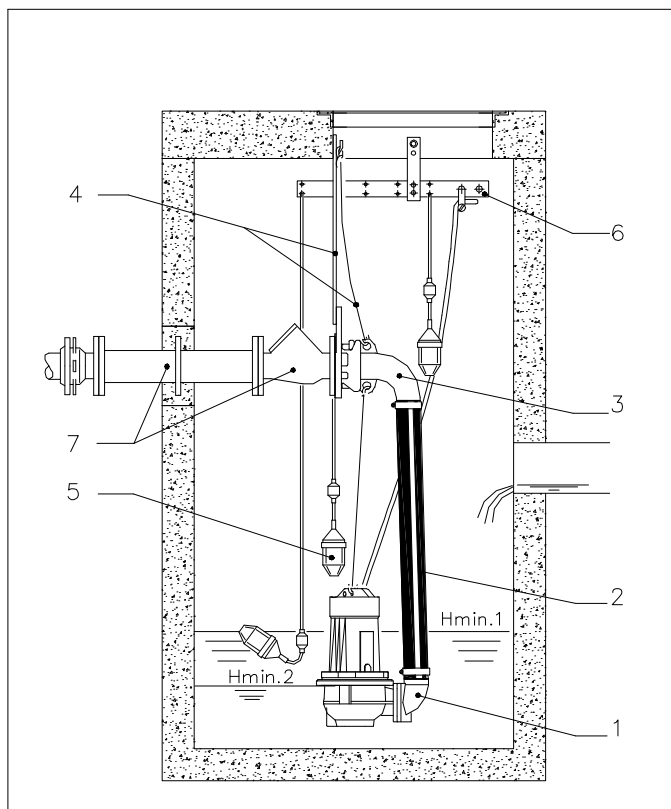
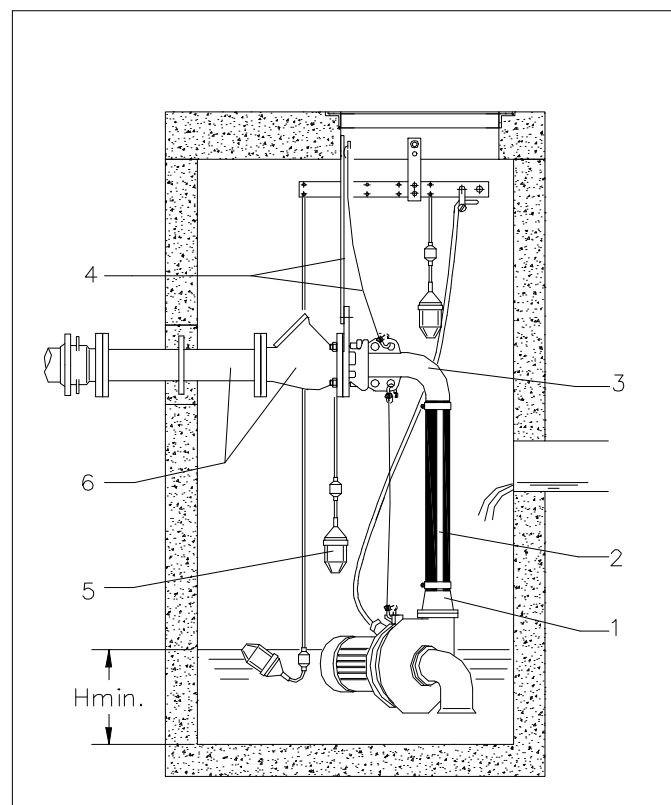

Fig. 6.1
Fig. 6.2
Most of the RW20 pumps (except types with larger pumpcasings) will have a vertical position, see Fig. 6.1. RW40 pumps are horizontally placed, see Fig. 6.2.
- Check that the motor is adequately cooled. The motorhousing should be at least 2/3 submerged for continuous operation at full load (see Hmin.1 Fig. 6.1).
For interrupted level controlled operation, less cooling is required. We recommend not to run the pump with the water level below the top of the volute in order to avoid air being drawn in (see Hmin.2 Fig. 6.1).